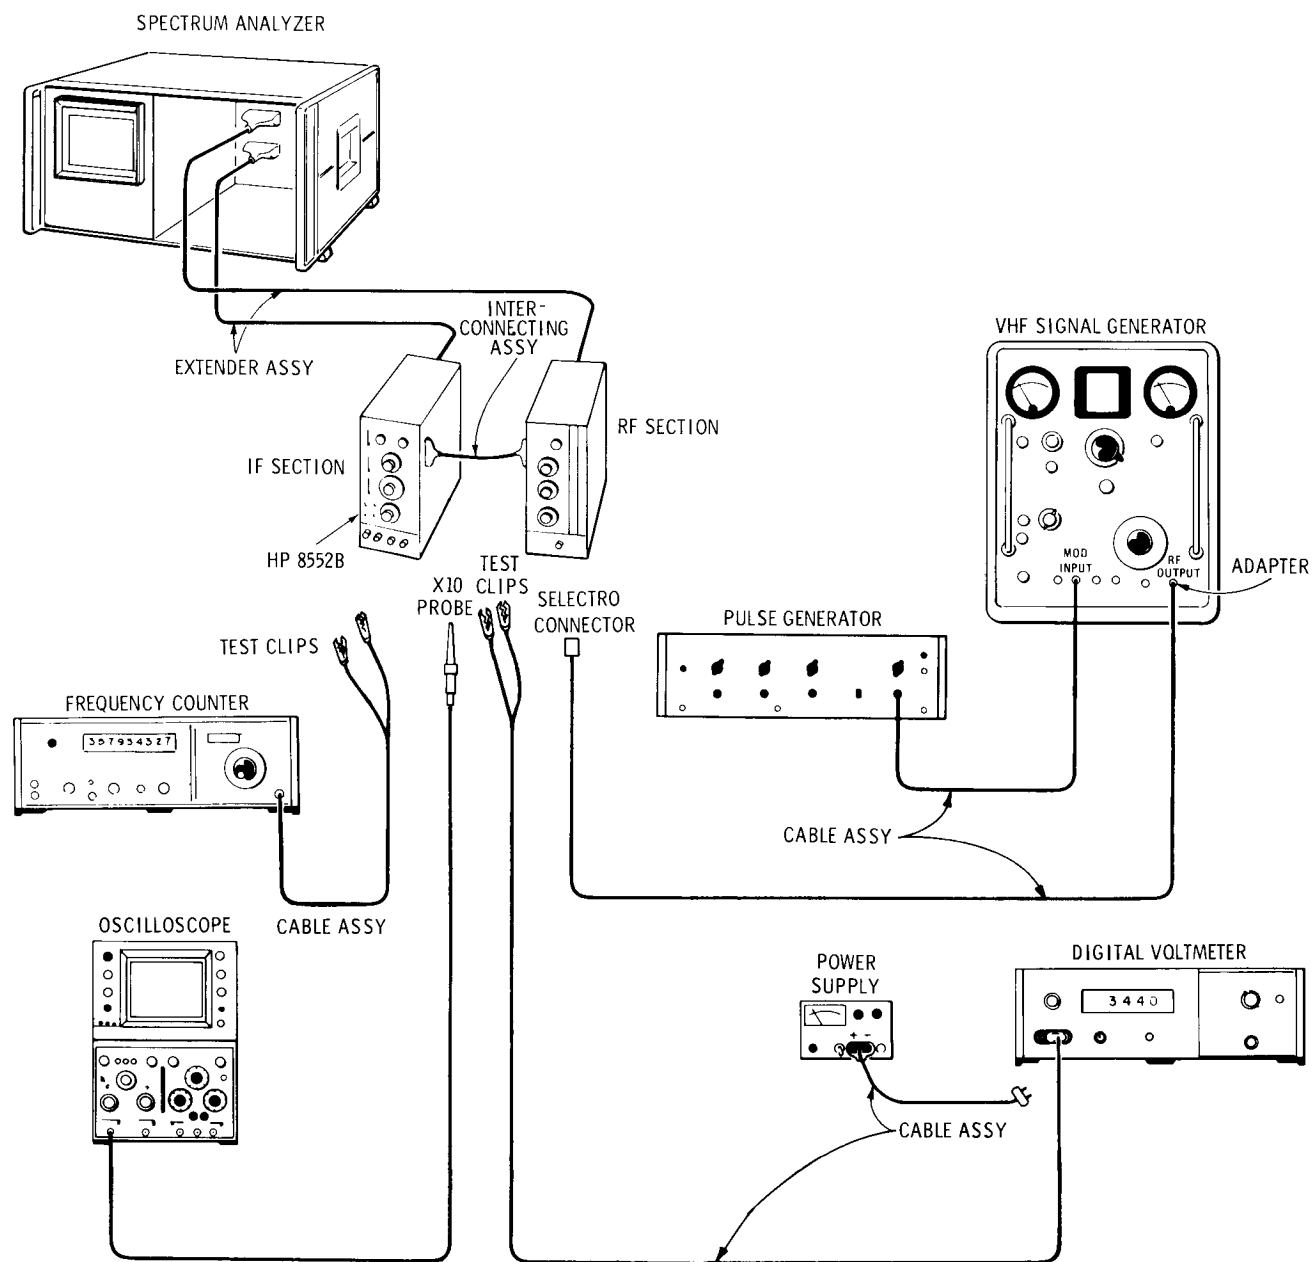

Figure 5-10. 47 MHz LO Automatic Phase Lock Test Setup
1. Connect the test setup in Figure 5-10. Remove the A1/A12 Assemblies cover shield and the A13 2 MHz VTO Assembly, and make the following control settings: